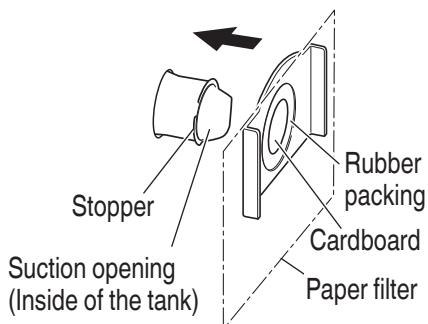

Fig. 31
- (3) Match the suction hole in the paper filter with the suction opening of the appliance. Insert the filter in the direction of the arrow as shown in the illustration, so that the cardboard of the paper filter goes past the stopper on the suction opening. (see **Fig. 31**)